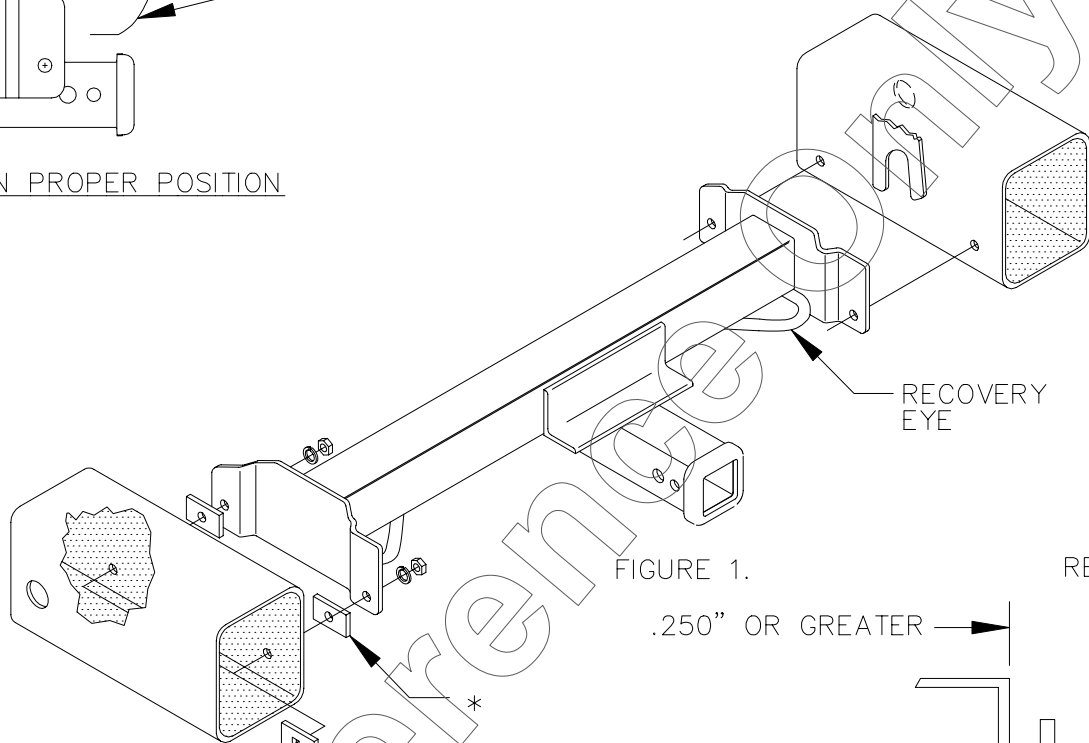

FIGURE 1.
4. FISHWIRE CARRIAGE BOLTS AND BLOCKS THROUGH FRAME AS SHOWN IN FIGURE 1.